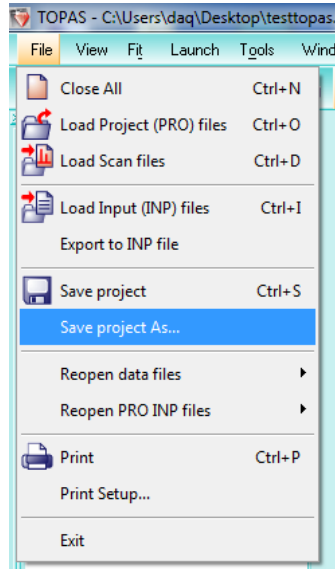

Figure 22. Save Project Pathway
1. Select 'File' on the Menu Bar and go to 'Save project As...' (Figure 22)